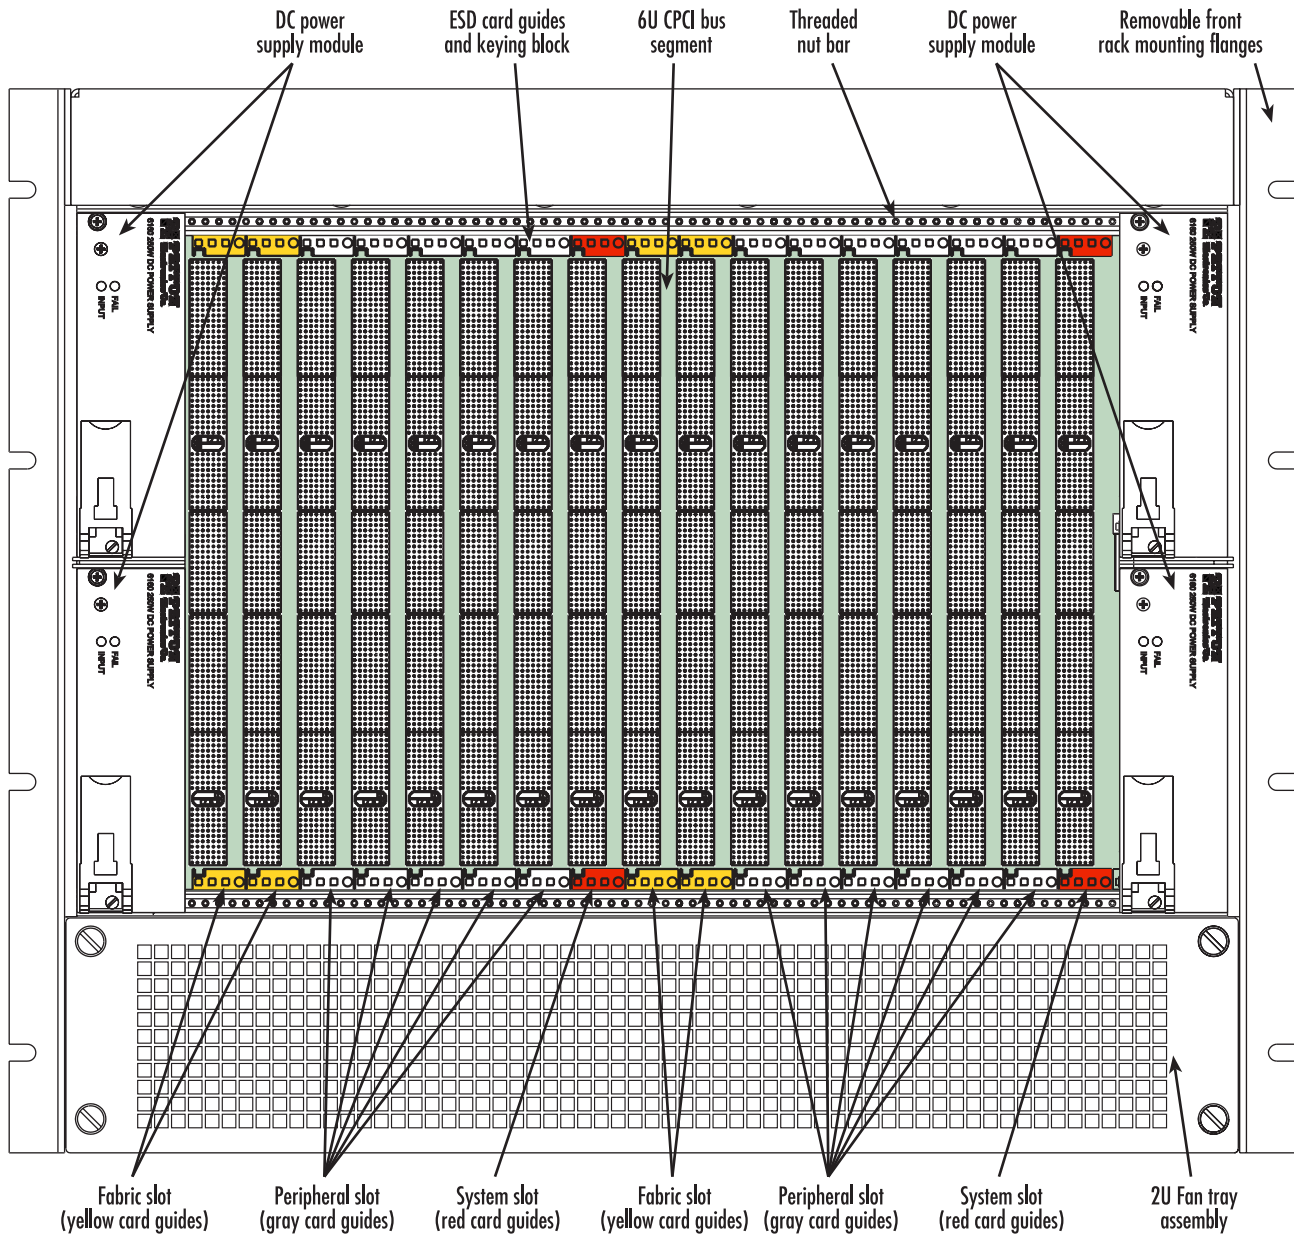
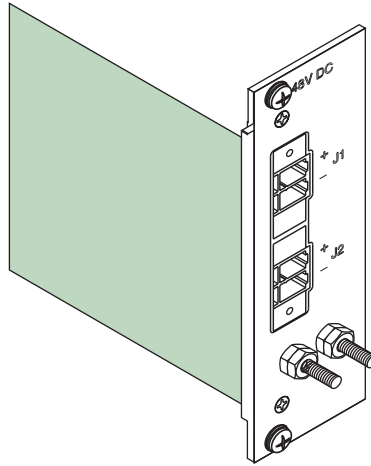

Figure 3. Front view of chassis
Figure 9. DC rear power entry module
The rear of the Model 6676 chassis provides seventeen 6U x 80mm slots for ForeFront rear transition modules for rear-panel I/O (see figure 3). See section “ForeFront AIS blades” on page 20 for more information.
In addition to the 17 6U slots, there are two 3U x 160 mm slots on the front right and two 3U x 160 slots on the left of the ForeFront Xtreme Chassis. These slots support two Model 6160 or 6161 DC power supply modules (see figure 3 on page 15).
The ForeFront Xtreme Chassis is equipped with two Model 6160 or 6161 DC power supply modules (see figure 3 on page 15) and two Model 6112/HOR (DC) rear power entry modules (see figure 9).